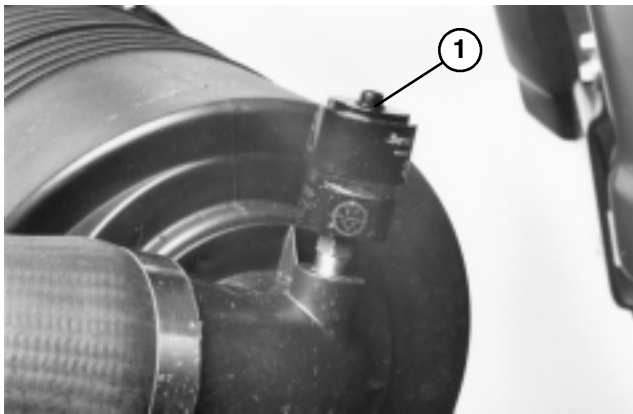

Figure 27
2. Service the air cleaner filters when ever air cleaner indicator (Fig. 27) shows red or every 400 hours (more frequently in extreme dusty or dirty conditions). Do not over service air filter.
8. Reset indicator (Fig. 27) if showing red.